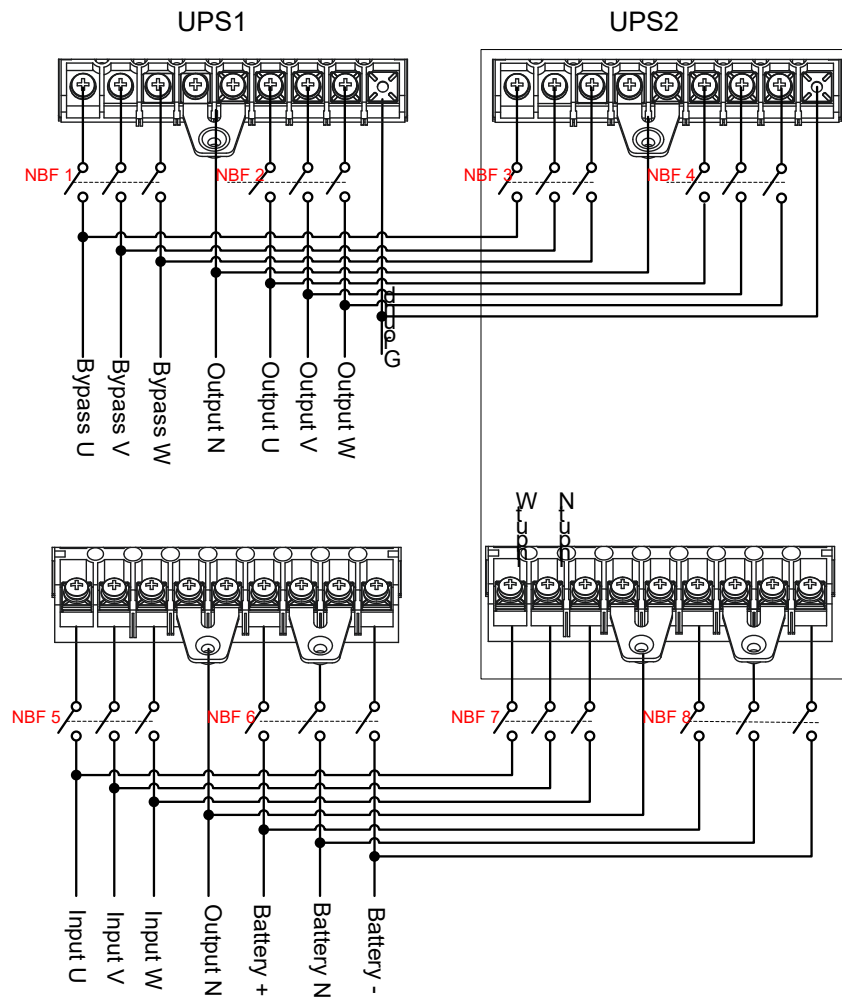
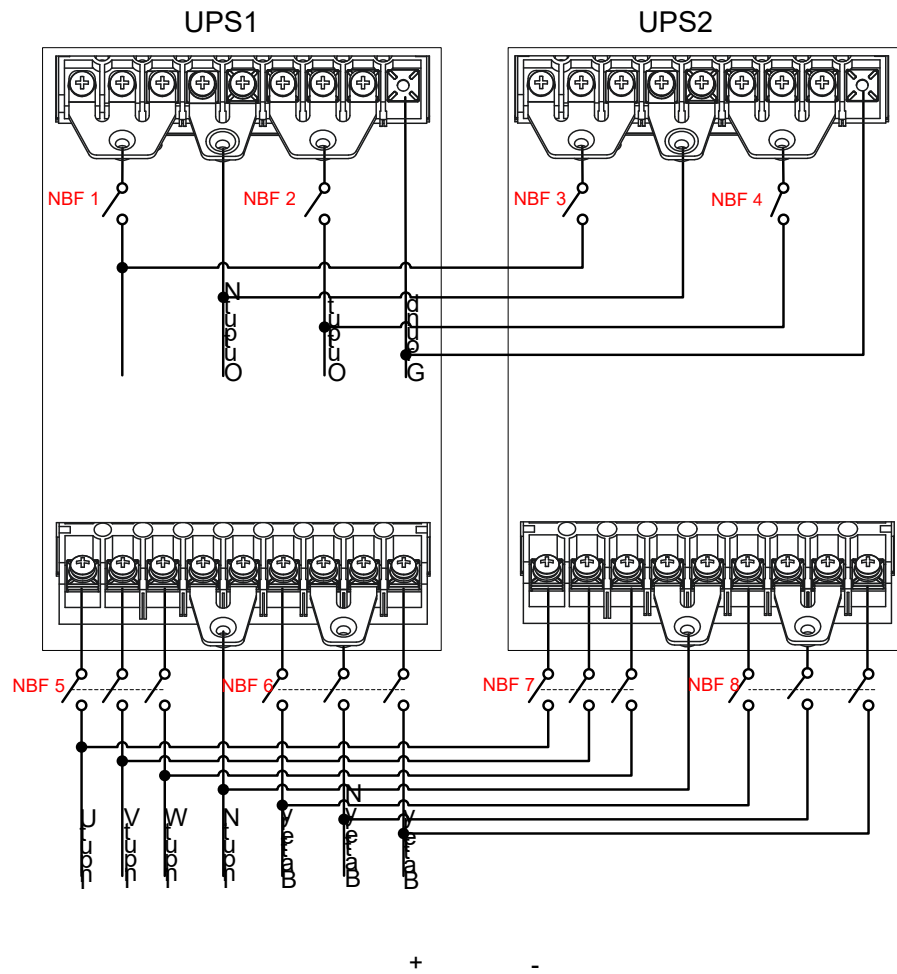
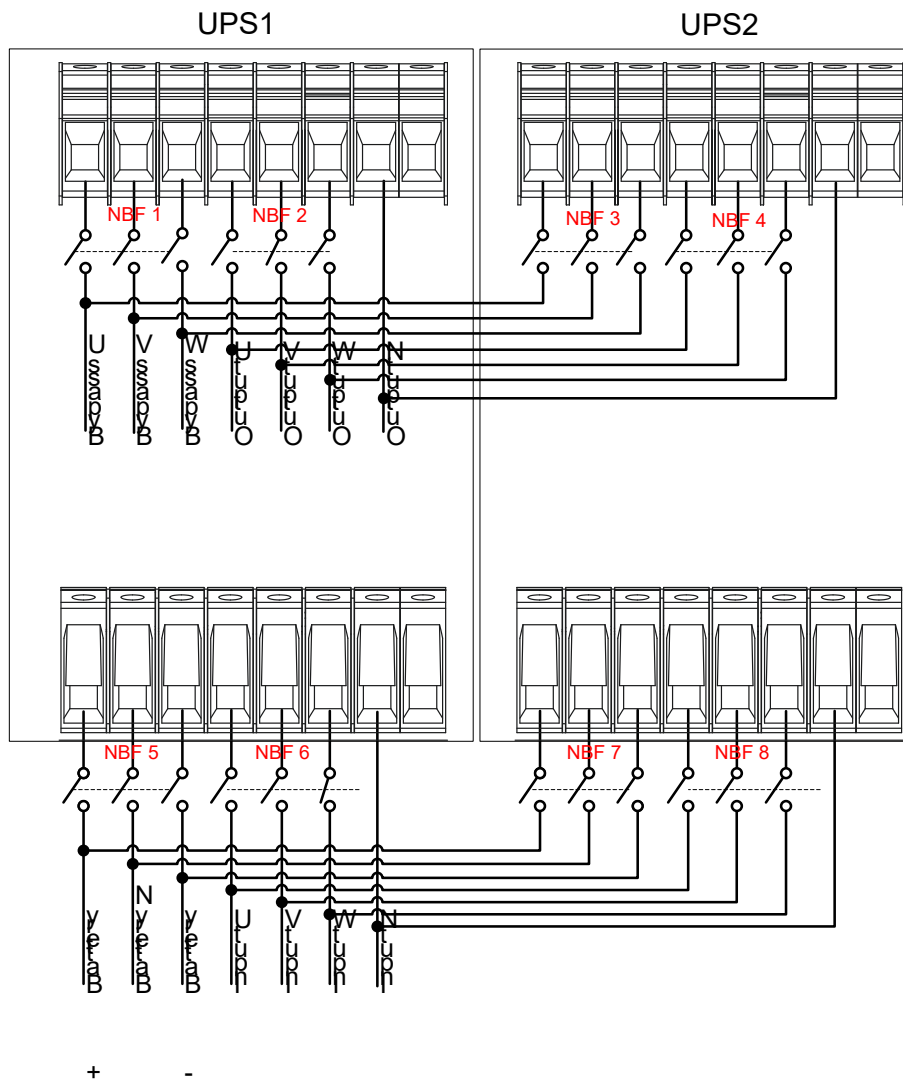
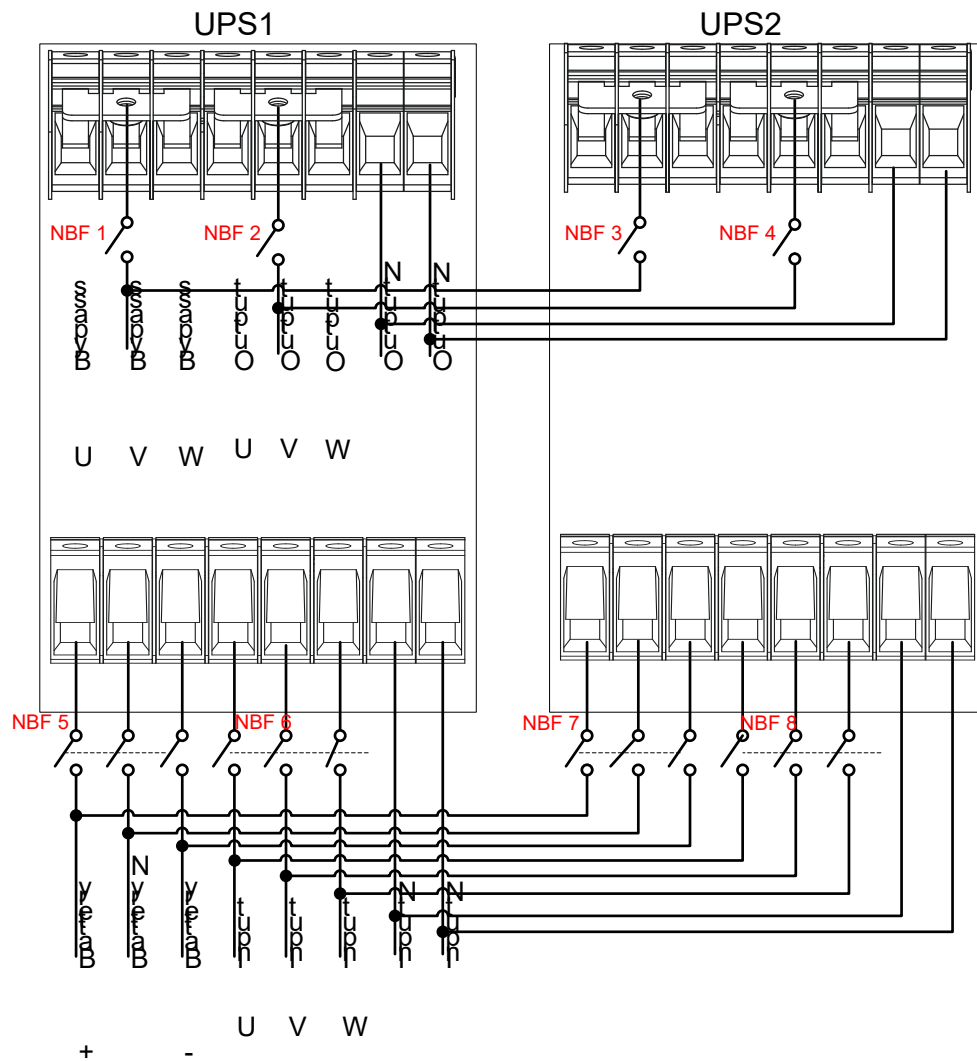

Figure3-29 Diagram of 33 mode parallel system wiring of (10kVA-20kVA) UPS
Figure3-30 Diagram of 31 mode parallel system wiring of (10kVA-20kVA) UPS
Figure3-31 Diagram of 33 mode parallel system wiring of (30kVA-40kVA) UPS
Figure3-32 Diagram of 31 mode parallel system wiring of (30kVA-40kVA) UPS
Step 2 Connect the wires of input, output, battery and grounding in parallel system on the basis of Figure3-29, Figure3-30, Figure3-31 or Figure3-32.